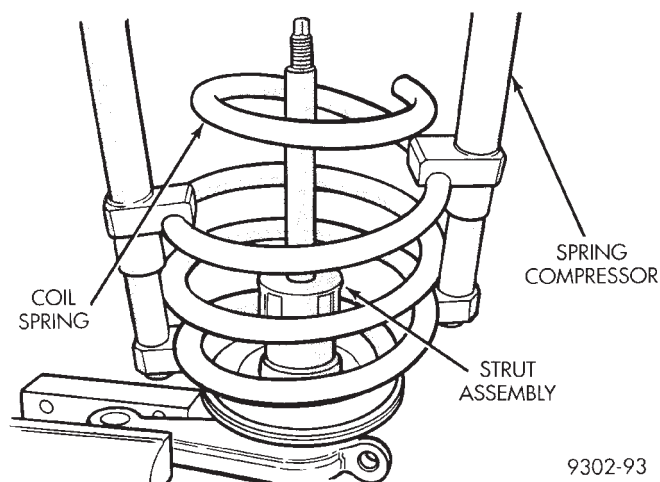

Fig. 5 Removing Coil Spring And Compressor From Strut
(7) Remove the coil spring and the spring compressor as an assembly from the strut unit (Fig. 5).